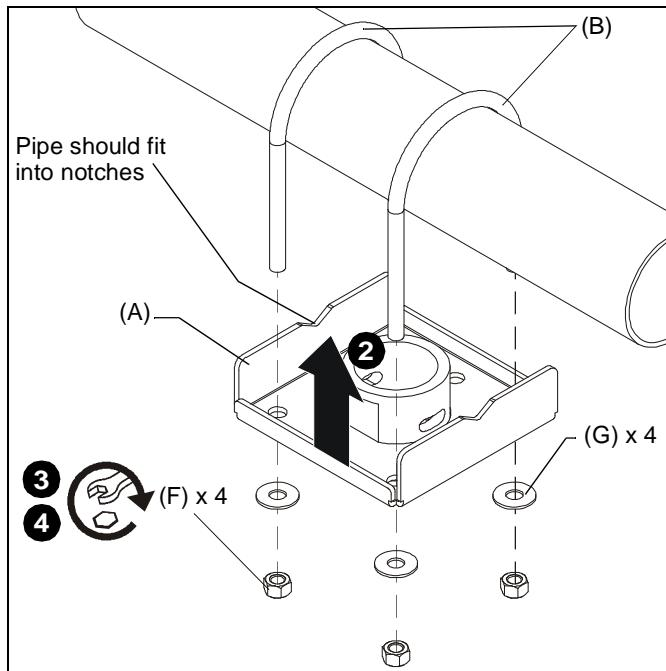

Figure 2
2. Raise truss plate (A) up and insert U-bolts through holes in truss plate. (See Figure 2)
NOTE: If installing truss plate (A) to pipe, ensure that pipe fits into notches in plate. (See Figure 2)
3. Loosely install 3/8" nuts (F) and 3/8" washers (G).
4. Level mount and tighten nuts (E). (See Figure 2)